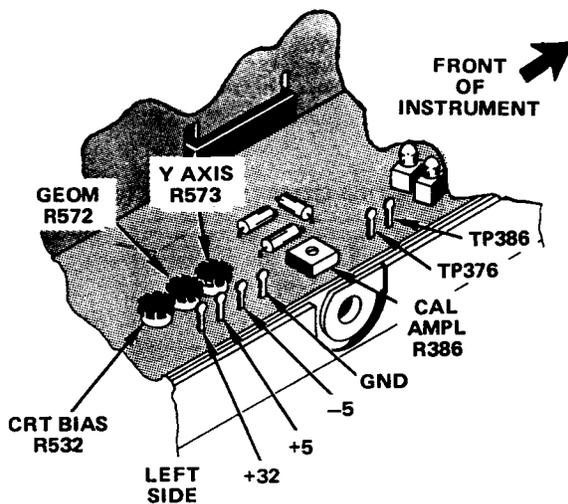
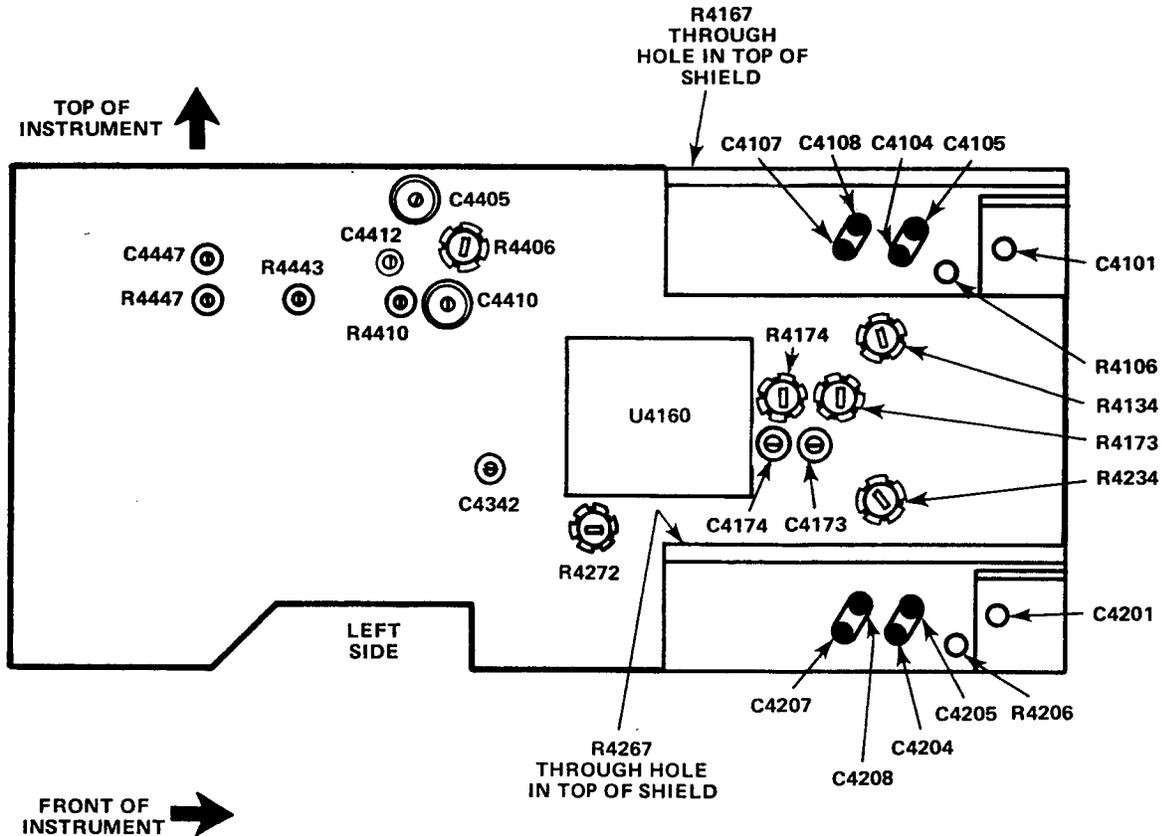

Figure 5-18. Crt and Calibration test point and adjustment locations.
Figure 5-19. Vertical adjustment locations.
(4) Adjust C515 and C516 for the squarest front corner on the displayed pulse.
(5) Disconnect the test oscilloscope.
e. Y-Axis Alignment (Figure 5-18).
(1) Set A AND B TIME/DIV to 1 ms and CH 1 AC-GND-DC to GND.
(2) Vertically position the display to the center horizontal graticule line.
(3) Adjust TRACE ROTATION to align the trace with the center horizontal graticule line.
(4) Set CH 1 AC-GND-DC to DC.
(5) Connect a time mark generator to CH 1 input through a 50 ohm BNC cable and 50 ohm termination. Set the generator for one millisecond time marks.
(6) Set CH 1 VOLTS/DIV for a display of greater than 8 divisions. Adjust vertical POSITION to place base-line of display below the bottom graticule line.
(7) Set A AND B TIME/DIV, its associated VAR control, and horizontal POSITION for exactly one time mark per division.
(8) Adjust Y AXIS, R573 to align the center time mark with the center vertical graticule line.
(9) Continue to the next procedure.
f. Geometry (Figure 5-18).
(1) Readjust TIME/DIV VAR and horizontal POSITION for one time mark per division.
(2) Adjust GEOM, R572 for minimum bowing of time marks.
(3) Reset TIME/DIV VAR fully clockwise in its detent.
(4) Disconnect the time mark generator.
g. Calibrator (Figure 5-18).
(1) Connect a digital voltmeter to the CALIBRATOR output.
(2) Connect a shorting jumper between TP376 and TP386 (a small alligator clip works nicely).
(3) Adjust CAL AMPL, R386 for a 1.00 volt reading.
(4) Remove the shorting jumper from TP376 and TP386.
(5) Disconnect the voltmeter.
h. Dc Balance (Figure 5-19).
(1) Set CH 1 and CH 2 VOLTS/DIV to 5 m (1X window) and A AND B TIME/DIV to .2 ms.
(2) Adjust CH 1 vertical POSITION to vertically center the trace.
(3) Adjust R4134 for no trace shift when switching CH 1 VOLTS/DIV between 5 m and 10 m.
(4) Set VERT MODE to CH 2.
(5) Adjust CH 2 vertical POSITION to vertically center the trace.
(6) Adjust R4234 for no trace shift when switching CH 2 VOLTS/DIV between 5 m and 10 m.